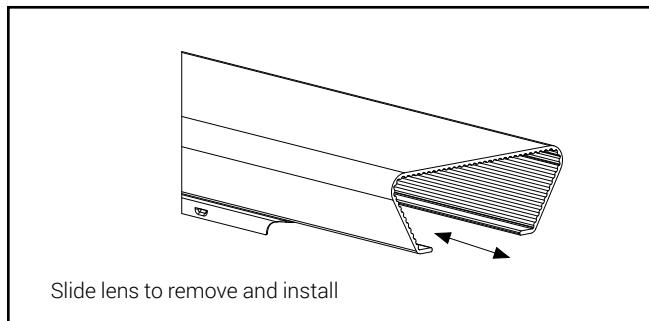

Figure 4.
5. Slide lens toward open end. (Figure 4)